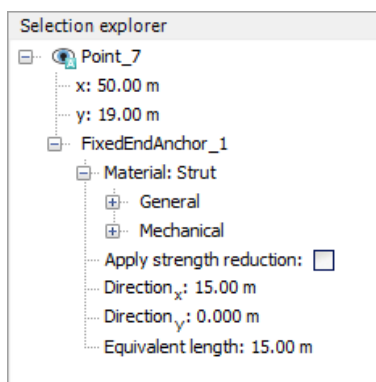

Figure 3-4: Parameters for fixed-end anchors in the Selection explorer
- 7 Enter an **Equivalent length** of 15m corresponding to half the width of the excavation as shown in Figure 3-4 \(p. 60\).